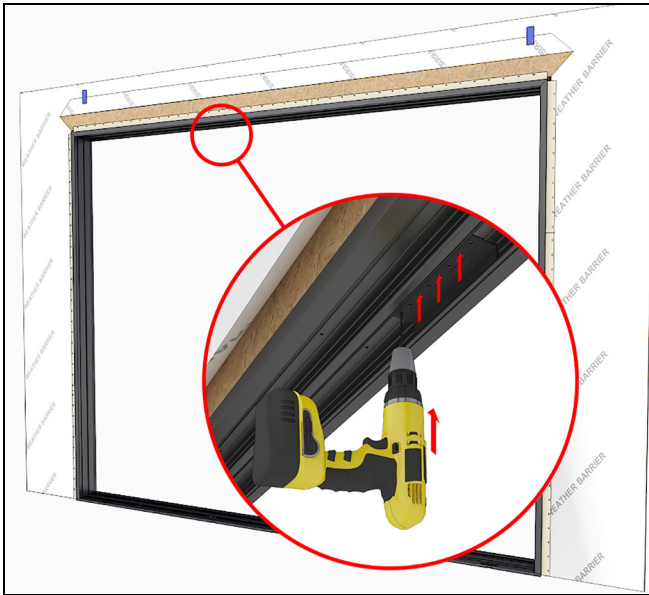

Figure 129
2. Pre-drill a 3/16" hole through the head jamb using the bracket as a template. Pre-drill at each outside hole of the bracket, and at least once more in the middle of the bracket. See Figure 129.